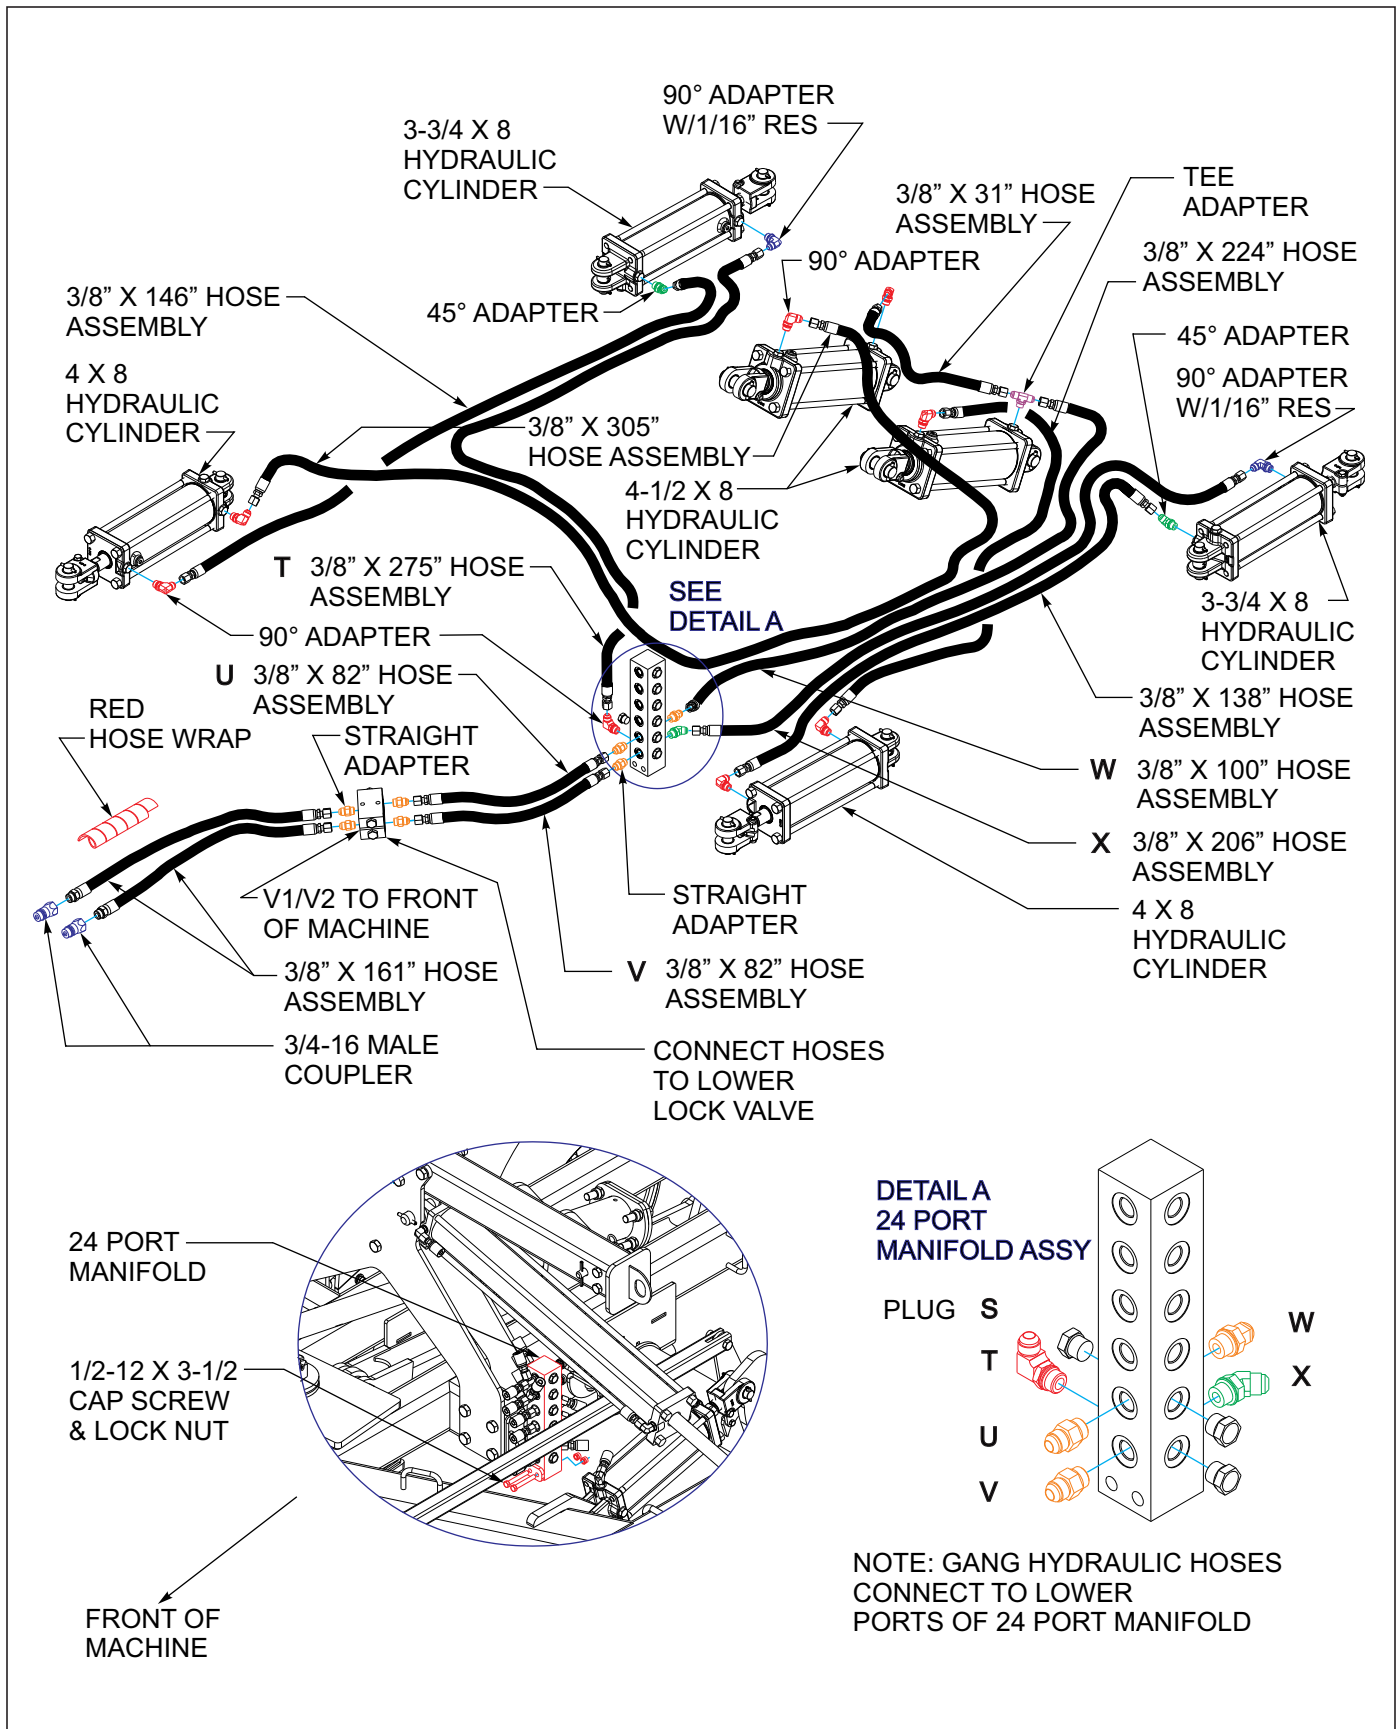
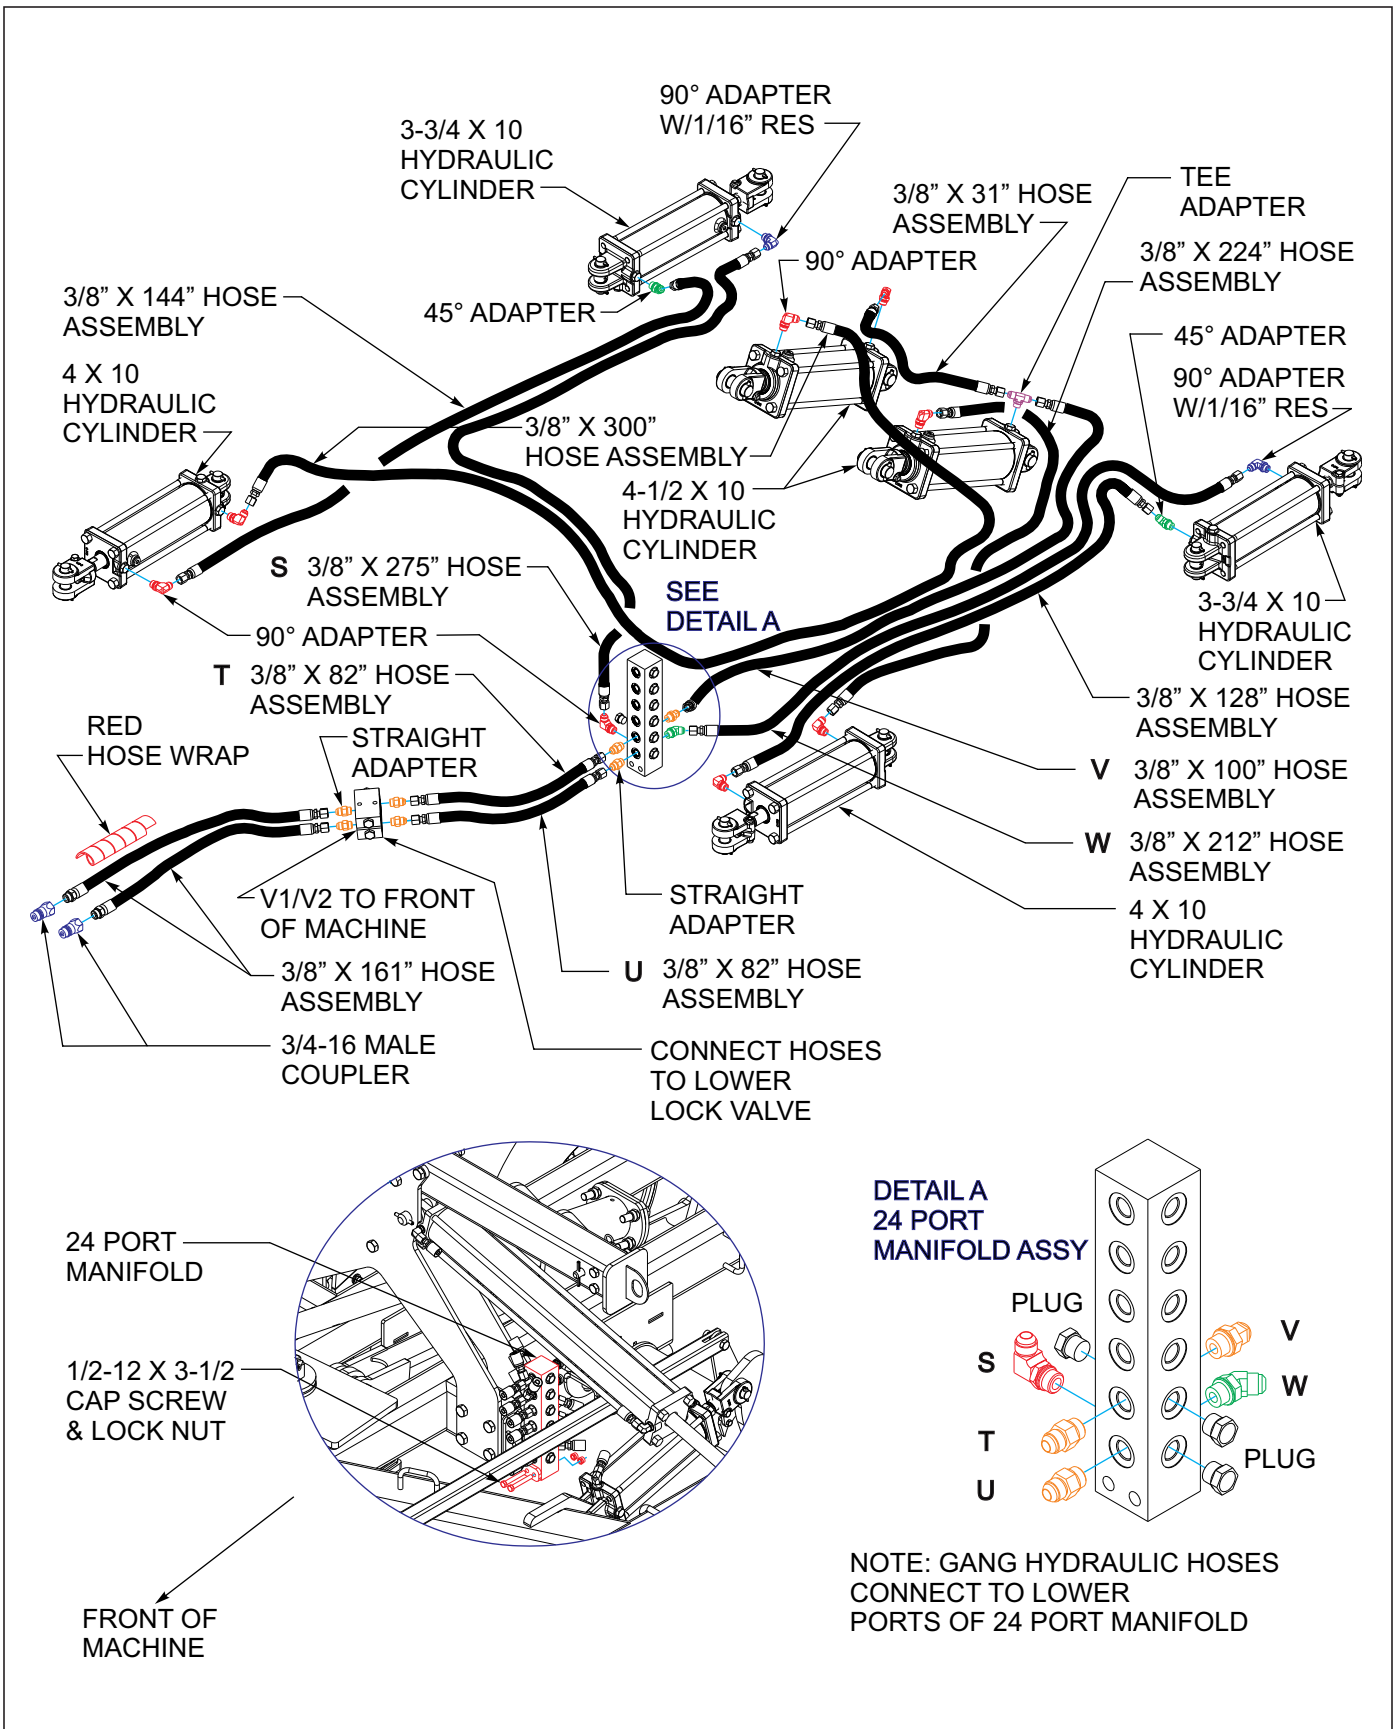
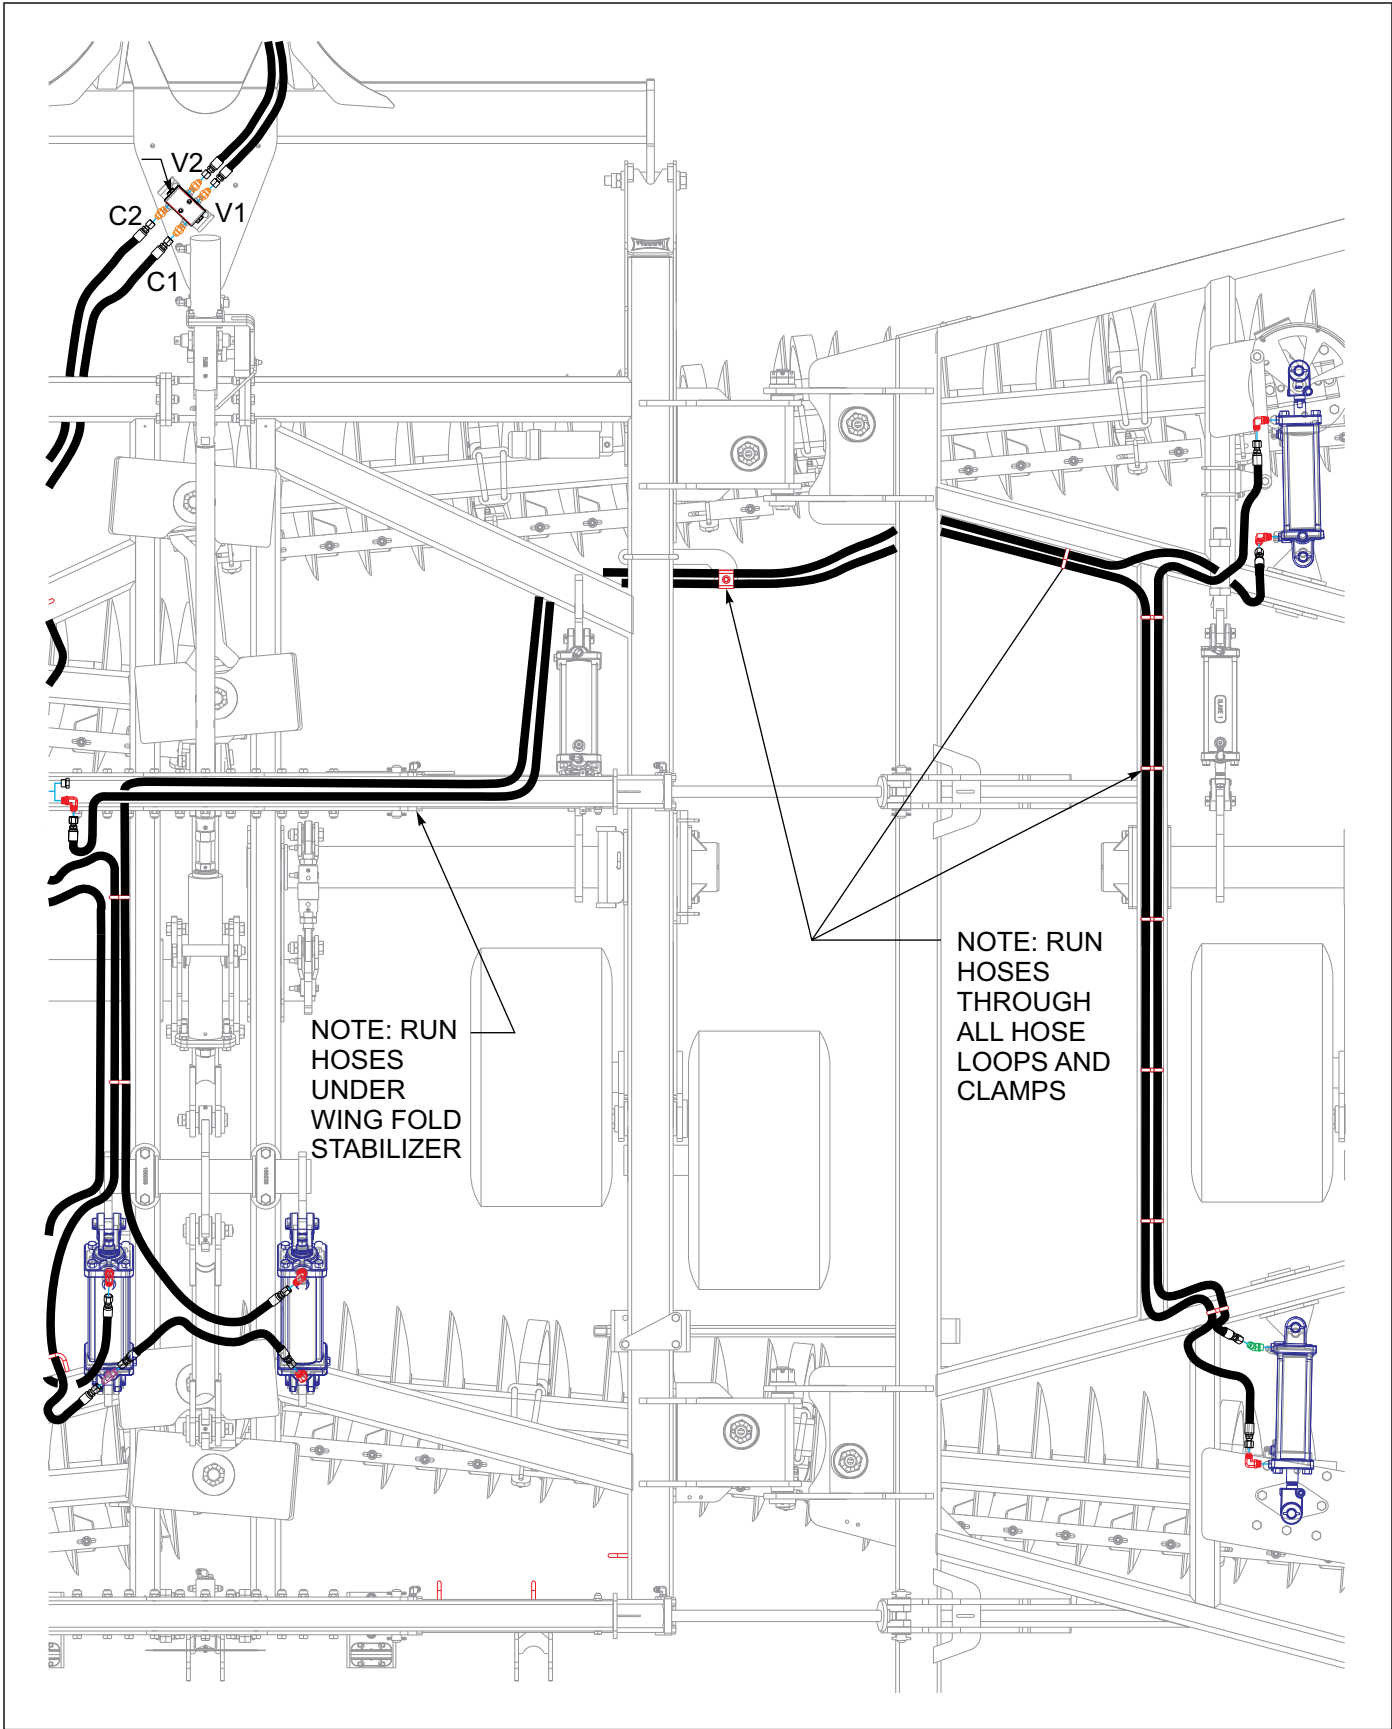

Figure 3-29: Gang Hydraulic Installation 7530-26'
Figure 3-30: Gang Hydraulic Installation 7530-29'
Figure 3-37: Gang Hydraulic Layout 7530-32'/35' RH
4. The disc gang angle cylinders (See Figure 3-29. 7530-26', See Figure 3-30. 7530-29' and See Figure 3-31. 7530-32'/35') use the following fittings: The left master base end on the center frame requires a tee fitting and the rest of the ports on the center frame cylinders are regular 90 degree fittings. Both front wing gang cylinders require regular 90 degree fittings on both ends. Both rear wing gang cylinders have a 45 degree fitting on the base end and a black 90 degree 1/16 restrictor fitting on the rod end.
10. Install adjustable disc gang cylinder hoses and couplers, (See Figure 3-29. through See Figure 3-37.) Wrap disc gang cylinders with red hose wrap.